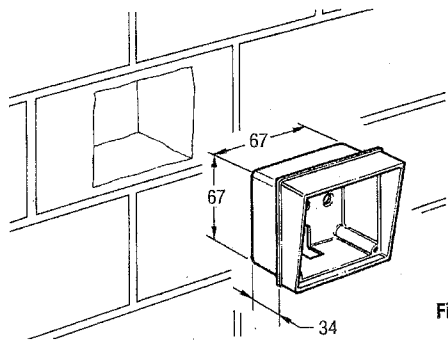
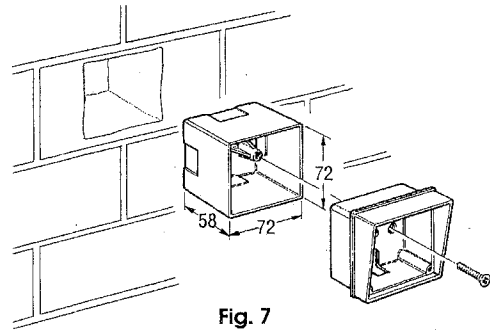

Fig. 6
Fig. 7
- 1) WALL MOUNTING (Figs. 6 - 7)
The box can be either mounted directly in the wall (Fig. 6) or inserted in a special plastic enclosure P/n 720043 (Fig. 7).